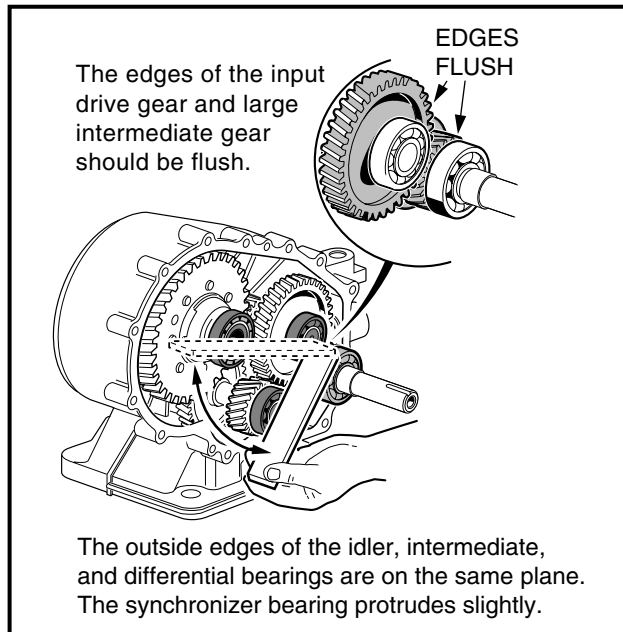

Figure 6-54 Gear Alignment
- 7.6. Keep the gears meshed, as a group, and work all of the gear assemblies into the bores until they are seated. When all of the assemblies are correctly seated, the outside edges of the input drive gear (55) and the intermediate gear (61) (**Figure 6-16, Page 6-9**) should be flush (in the same plane) as shown (**Figure 6-54, Page 6-25**). Also, the outside surfaces of the idler gear bearing, the intermediate gear bearing, and the differential gear bearing should be flush. **See following CAUTION.**